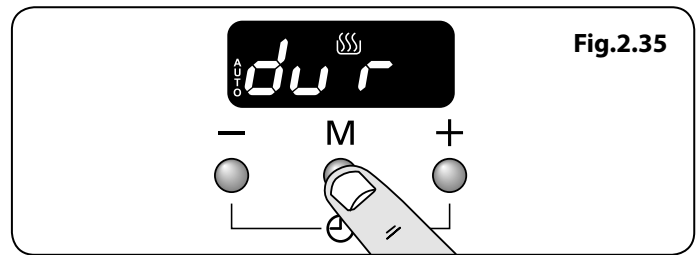

Fig.2.35
1. Press the mode [M] button until the display flashes (dur) (Fig.2.35). Then set the 'cook period' using the [+] or [-] buttons.